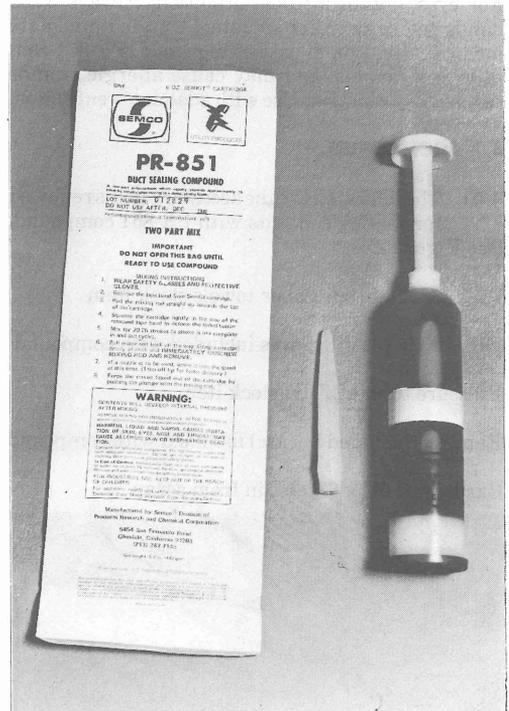

FIGURE 1
2.02 PR-851 is supplied in two-part disposable cartridges for easy mixing and application in the field. (see Figure 1)